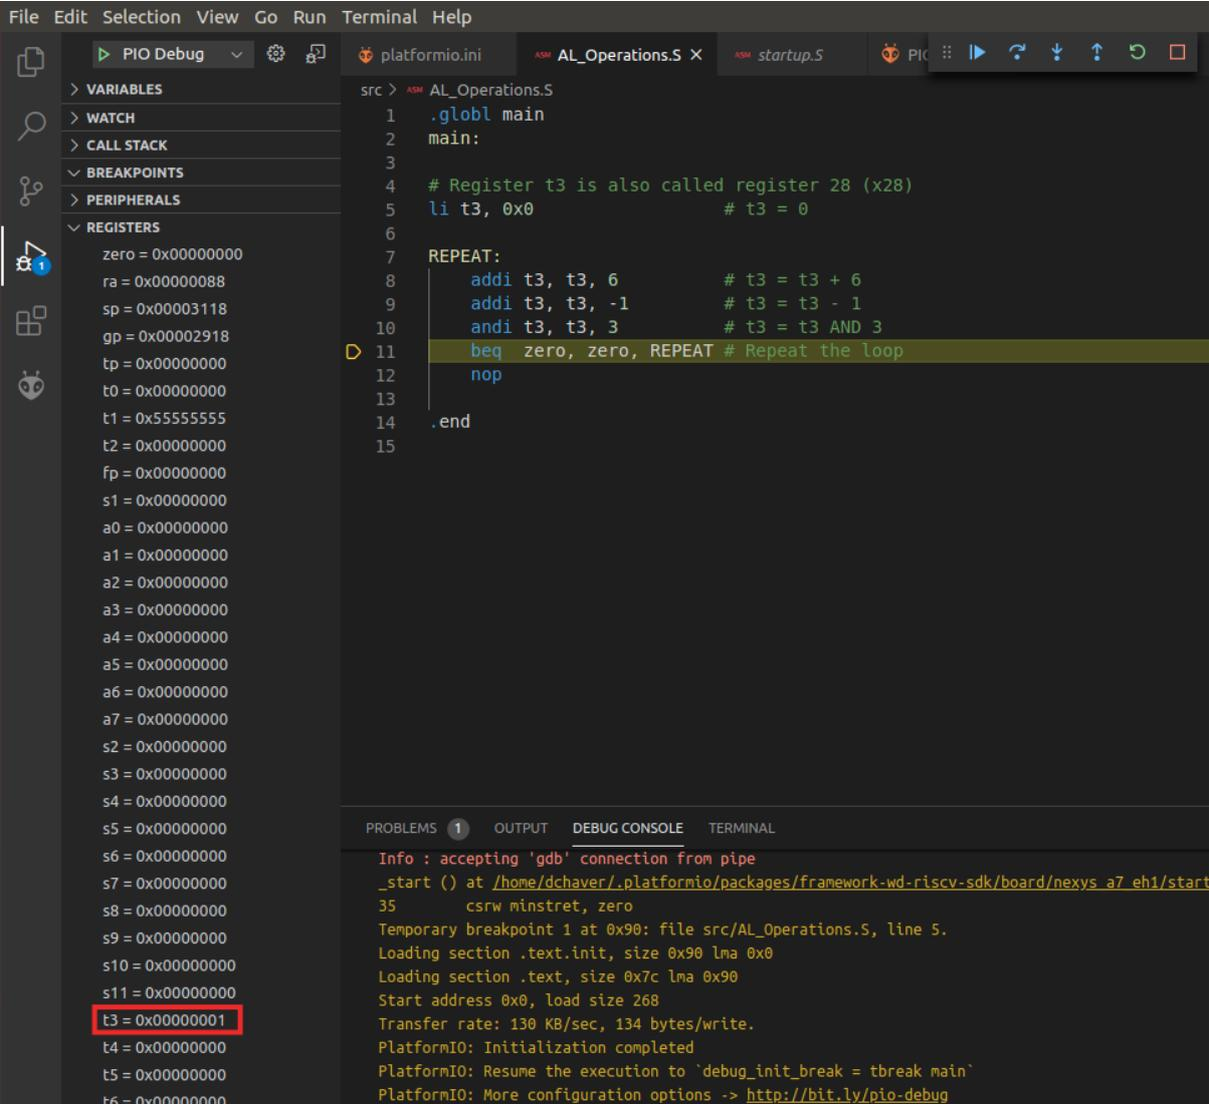

**Figure 47. Debugging tools**
5. To control your debugging session, you can use the debugging toolbar that appears near the top of the editor (see Figure 47). Below are the options: